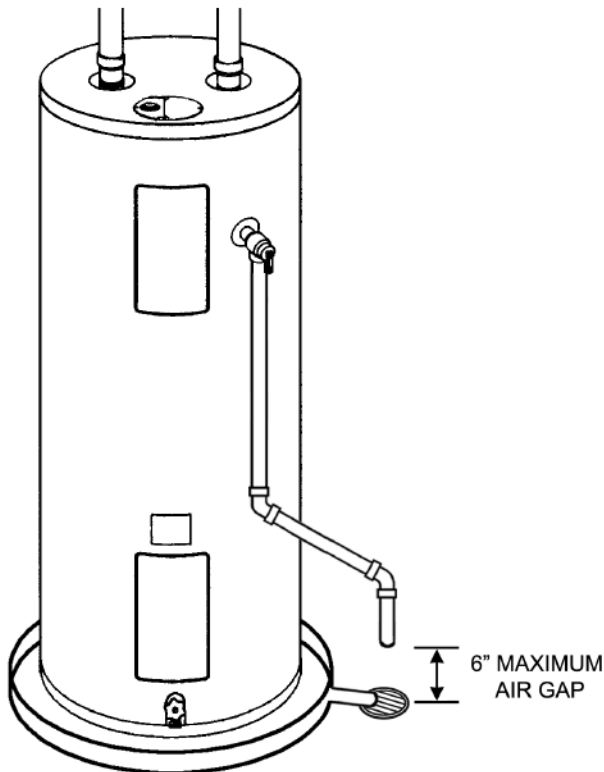

FIGURE 10.
1. Position the water heater so that the existing piping and electrical hookup will require the shortest distance between connections. Make sure that you are able to reach the drain valve and all access panels when the water heater is in place. See Figure 10. This will make it easy to service the water heater. The water heater must be level before you begin the piping.